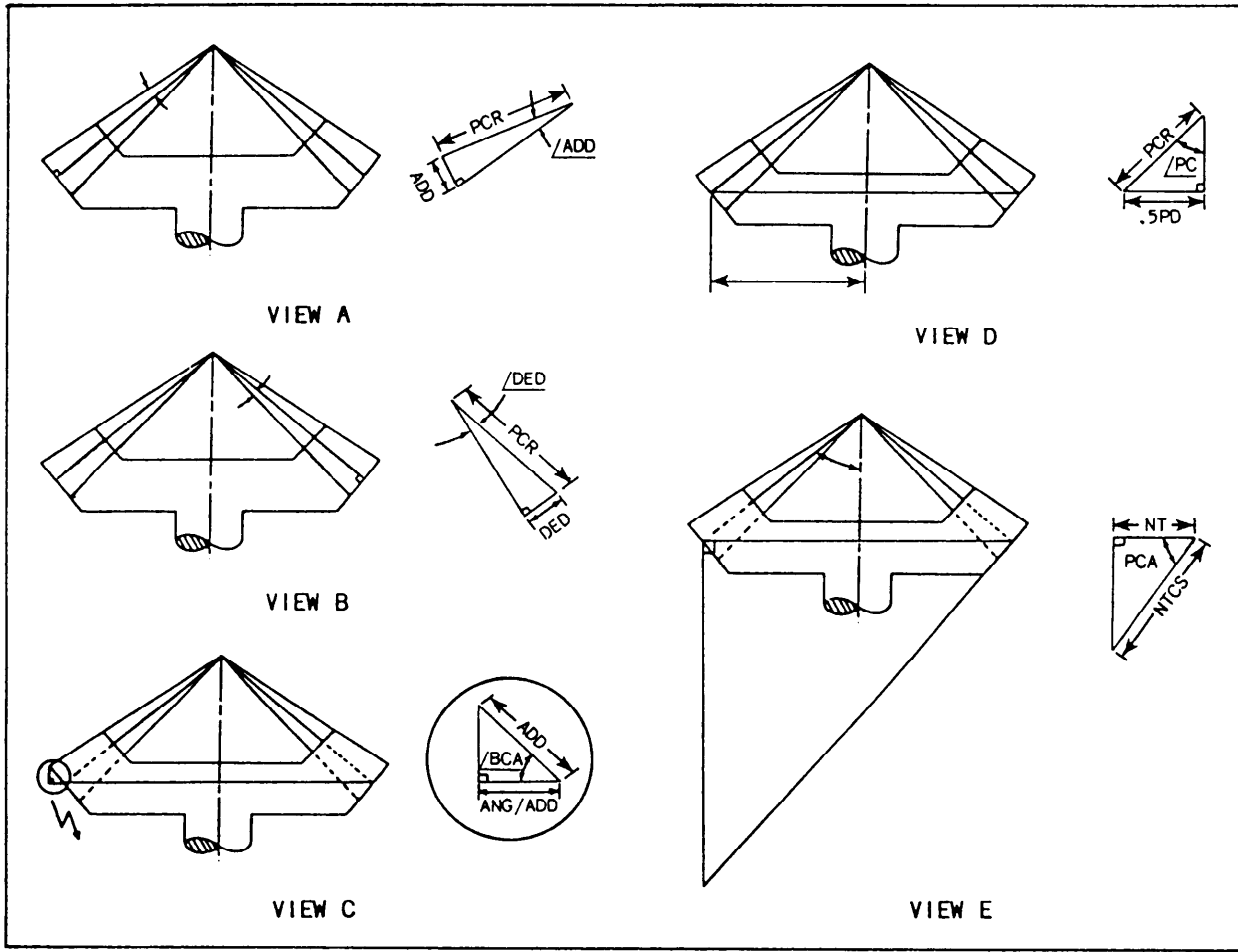

Figure 14-16.—Development of bevel gear formulas.
- In the triangle shown in figure 14-16, view A, the hypotenuse is the pitch cone radius and the side opposite is the addendum.
- In the triangle shown in figure 14-16, view B, the side opposite the dedendum angle is the dedendum and the hypotenuse is the pitch cone radius.
7. Pitch diameter (PD)—This is the diameter of the gear blank one addendum down at the large end of the gear.
8. Outside diameter (OD)
- b. In the triangle shown in figure 14-16, view C, the hypotenuse is the addendum and the side adjacent to the angle (BCA) is known as the angular addendum.
- c. In the triangle shown in figure 14-16, view D, the hypotenuse is the pitch cone radius and the side opposite the pitch cone angle ( $\angle PC$ ) is equal to one-half the pitch diameter (0.5 PD).
- a. In the triangle shown in figure 14-16, view E, the NTCS is the hypotenuse and the side adjacent is the number of teeth of the gear.